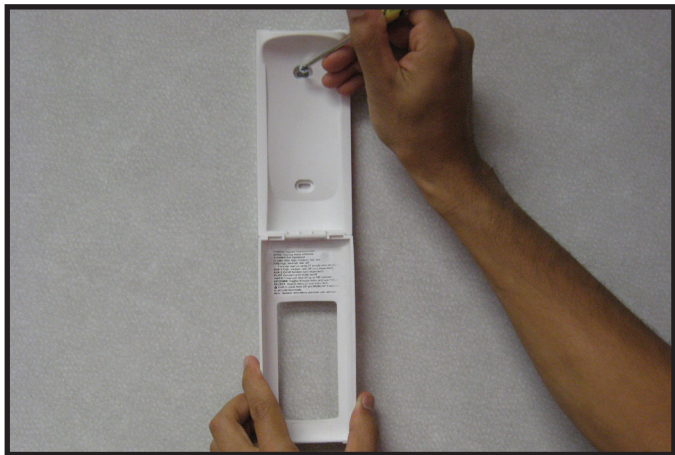

Figure 2. Mounting Remote Control Housing
3. Secure the remote control housing on a flat wall surface using the two screws and wall anchors provided. See Figure 2.